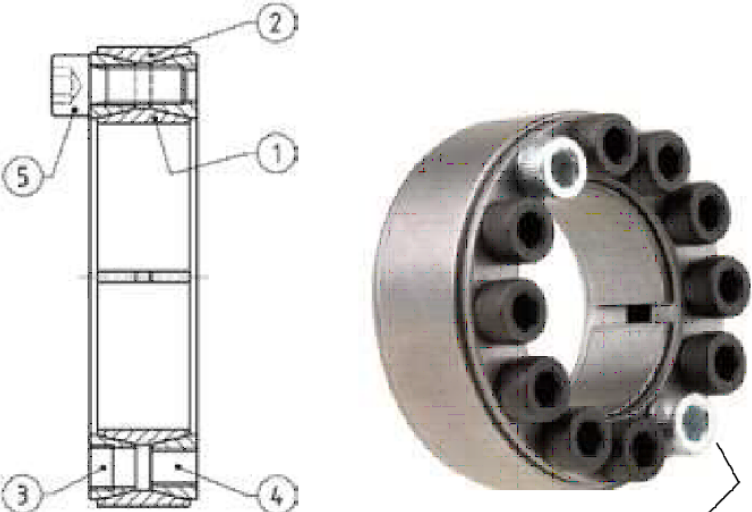

Figure 1
(Refer to Figure 1)
1. The shaft diameter must be within ± 0.003 " (0.08mm) of the Trantorque bore, "d" and the mounted component bore must be within ± 0.003 " (0.08mm) of the Trantorque outside diameter, "D" (Fig. 1). See www.fennerdrives.com for "d" and "D" values.